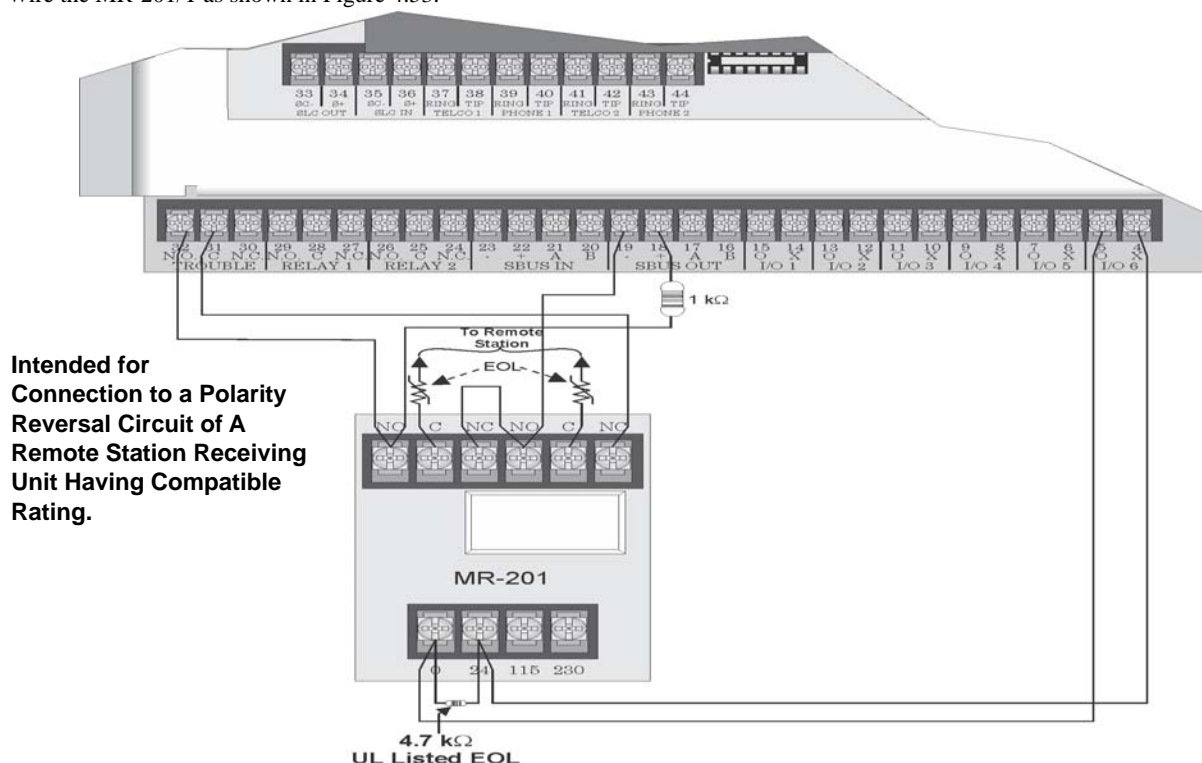

Figure 4.53 Polarity Reversal Connection Using the MR-201/T Relay
1. Wire the MR-201/T as shown in Figure 4.53.